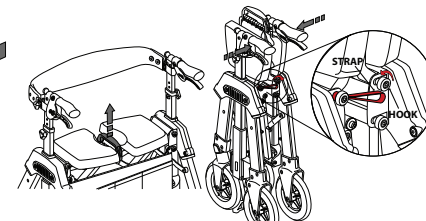

FIGURE 6
- To close the rollator, pull up on the handle between the seat pads. Squeeze handles together, and secure the Strap onto the Hook as shown in FIGURE 6.